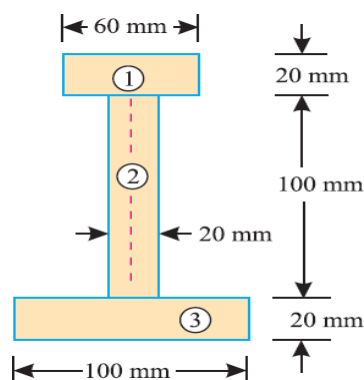

Fig.16
5. An I-section is made up of three rectangles as shown in Fig.16 Find the moment of inertia of the section about the horizontal axis passing through the centre of gravity of the section.